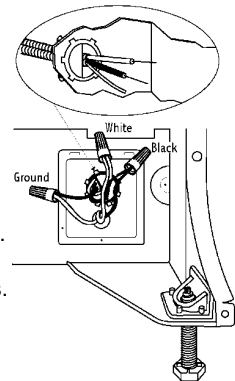

FIG 15
- 4 Fit the strain relief into the junction box hole and tighten. See Figure 15.